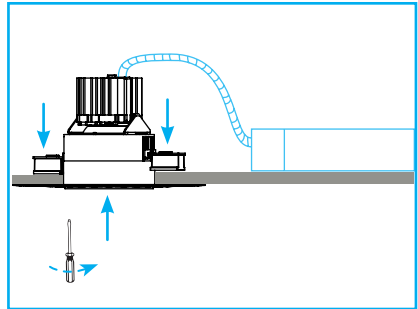

Fig.32
**Without Housing:** For remodel or tethered power supply installations, retract retaining tabs into trim aperture. Raise trim mechanism with attached appliqué, joining the trim and power supply coupler. Continue raising applique assembly into ceiling cut-out. Extend locking tabs to hold trim in place, tightening to seat firmly after final alignment *"Fig.32"*.